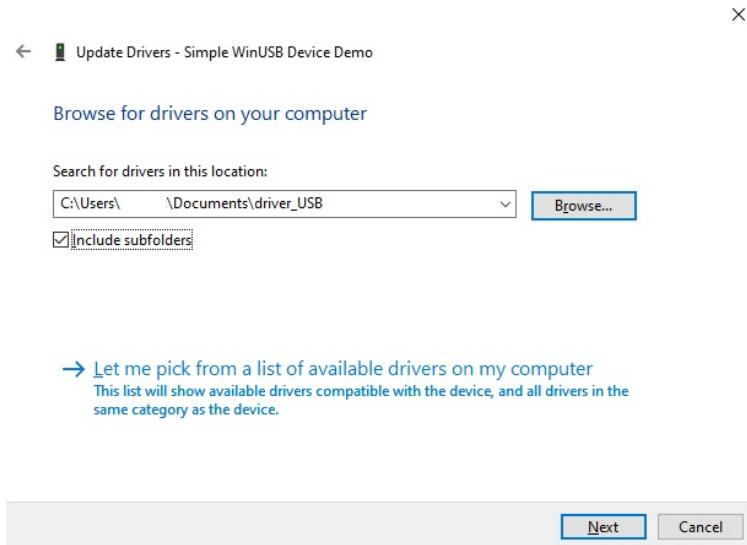

Fig. 10.11: "Update Drivers" window including path to the USB driver.
5. Point the driver folder in the PC destination path through the "Browse..." button and check "Include subfolders" (see Fig. 10.11).